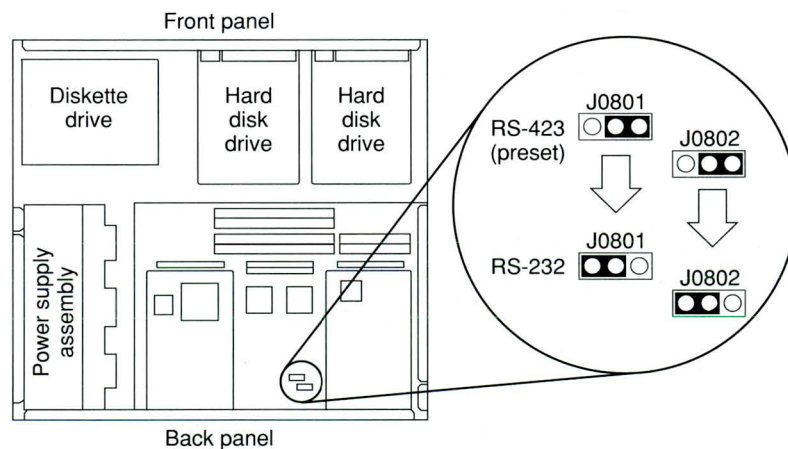

Figure B-2 Changing the Serial Port Mode Jumpers
3. Change the jumpers on both jumper blocks to the position between posts 1 and 2 (see Figure B-2).